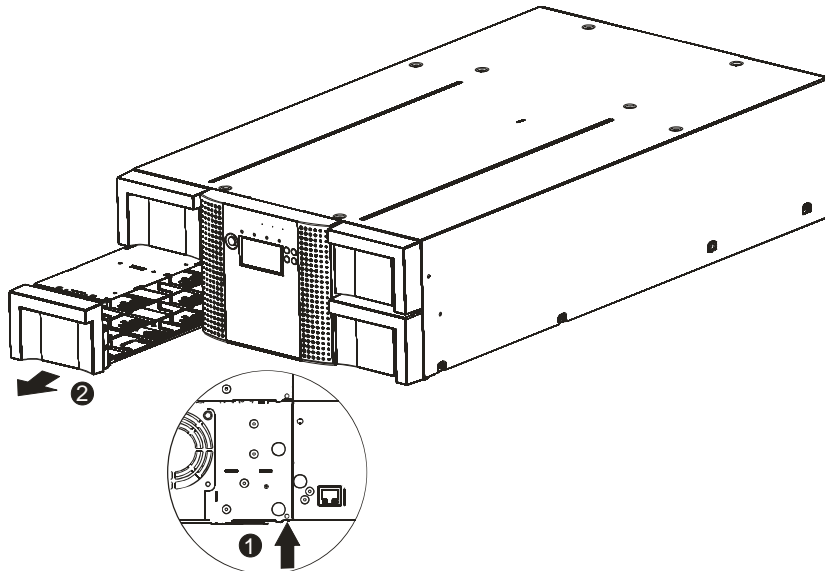

Figure 58 Remove the left magazine
3. To manually release the magazines, push the end of a straightened paper clip into the access hole for each magazine at the back of the Library. While holding the paper clip, have a second person pull the magazine out of the front of the unit. See Figure 58